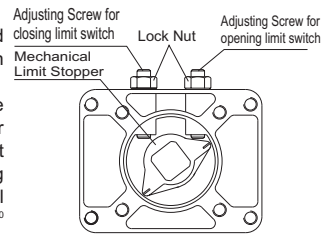

Fig.8
3.Adjustment of Mechanical Limiting Stopper (Fig. 8, 9)
① Drive the valve to the Full- Close Position by handle and make the Full-close position micro-switch (K1) move (When the limit switch moves, you can hear a sound of “click”).
② Loosen the lock nut on the right side and turn clockwise the adjusting screw for closing limit-switch by means of inner hexagon spanner and make the adjusting screw to contact with the mechanical stopper, and then turn back the adjusting screw anti-clockwise for half of ring, make the mechanical limit-switch at the Full-close position be delayed with 2.5° angle distance to the electric limit-switch and then fasten the lock nut.
③ Use the same method to make the adjustment of Full-open position mechanical limit-switch (on left side).